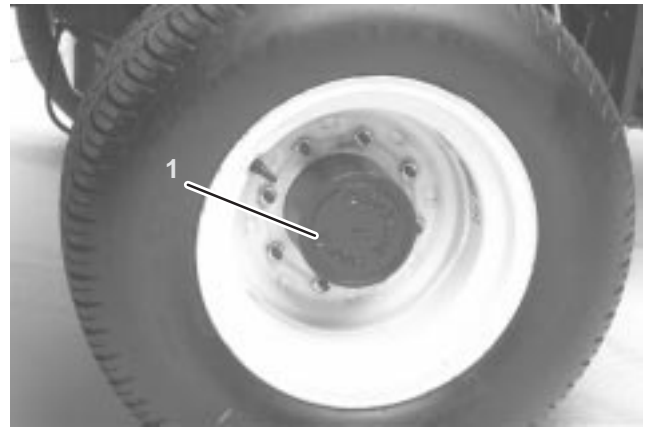

Figure 63
1. With machine on level surface, position wheel so the check/drain plug is at lowest position (Fig. 63).